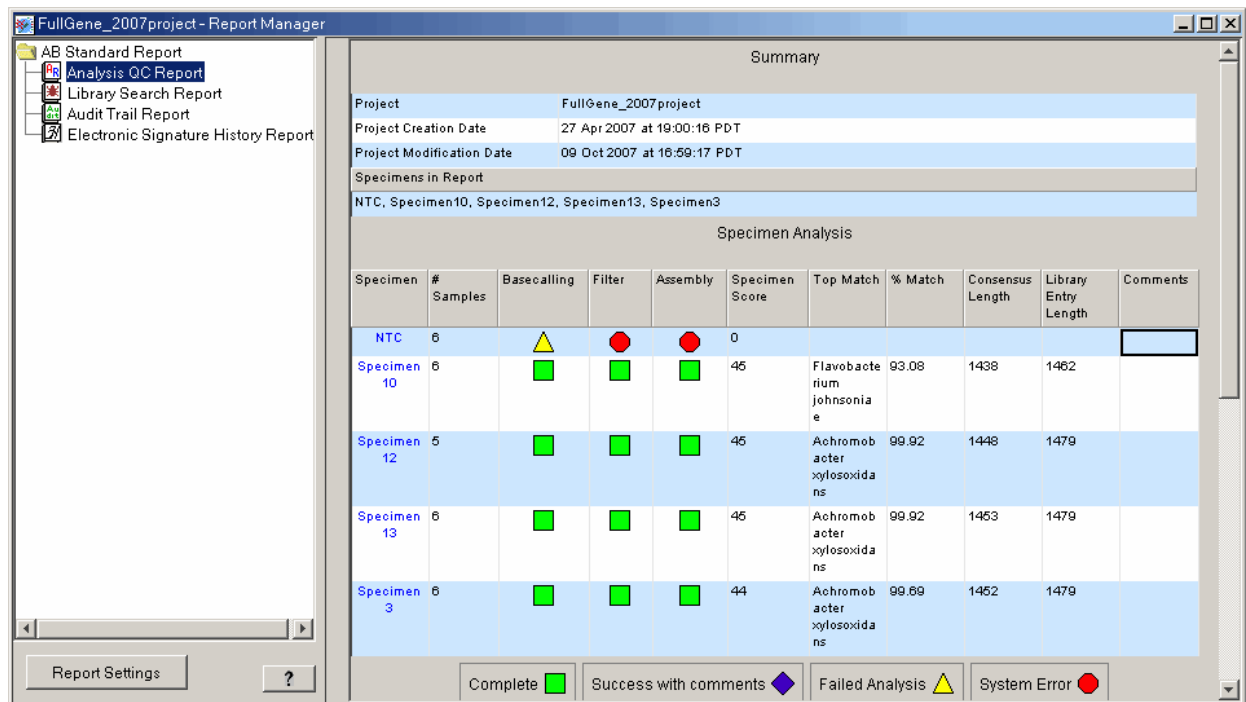

Figure 3 Example Analysis QC Report
- **Analysis QC Report** – Allows you to quickly scan the unknowns in a project to gather information about the samples, including the top percent identity match and specimen score to measure data quality. See Figure 3.